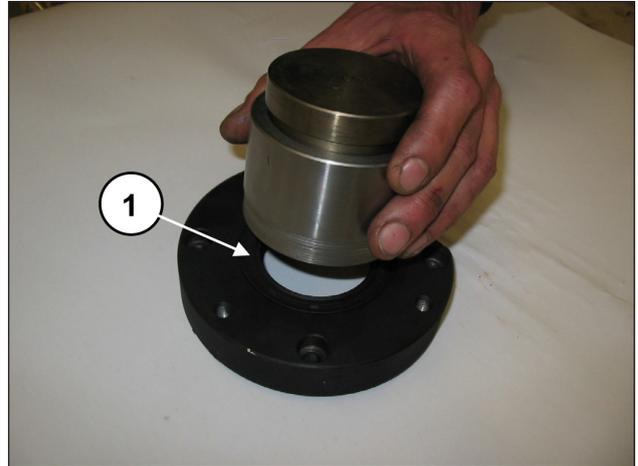

Fig. 64
Insert the radial seal ring into the PTO bearing cover using the tool code 27539500 (pos. ①, Fig. 64).